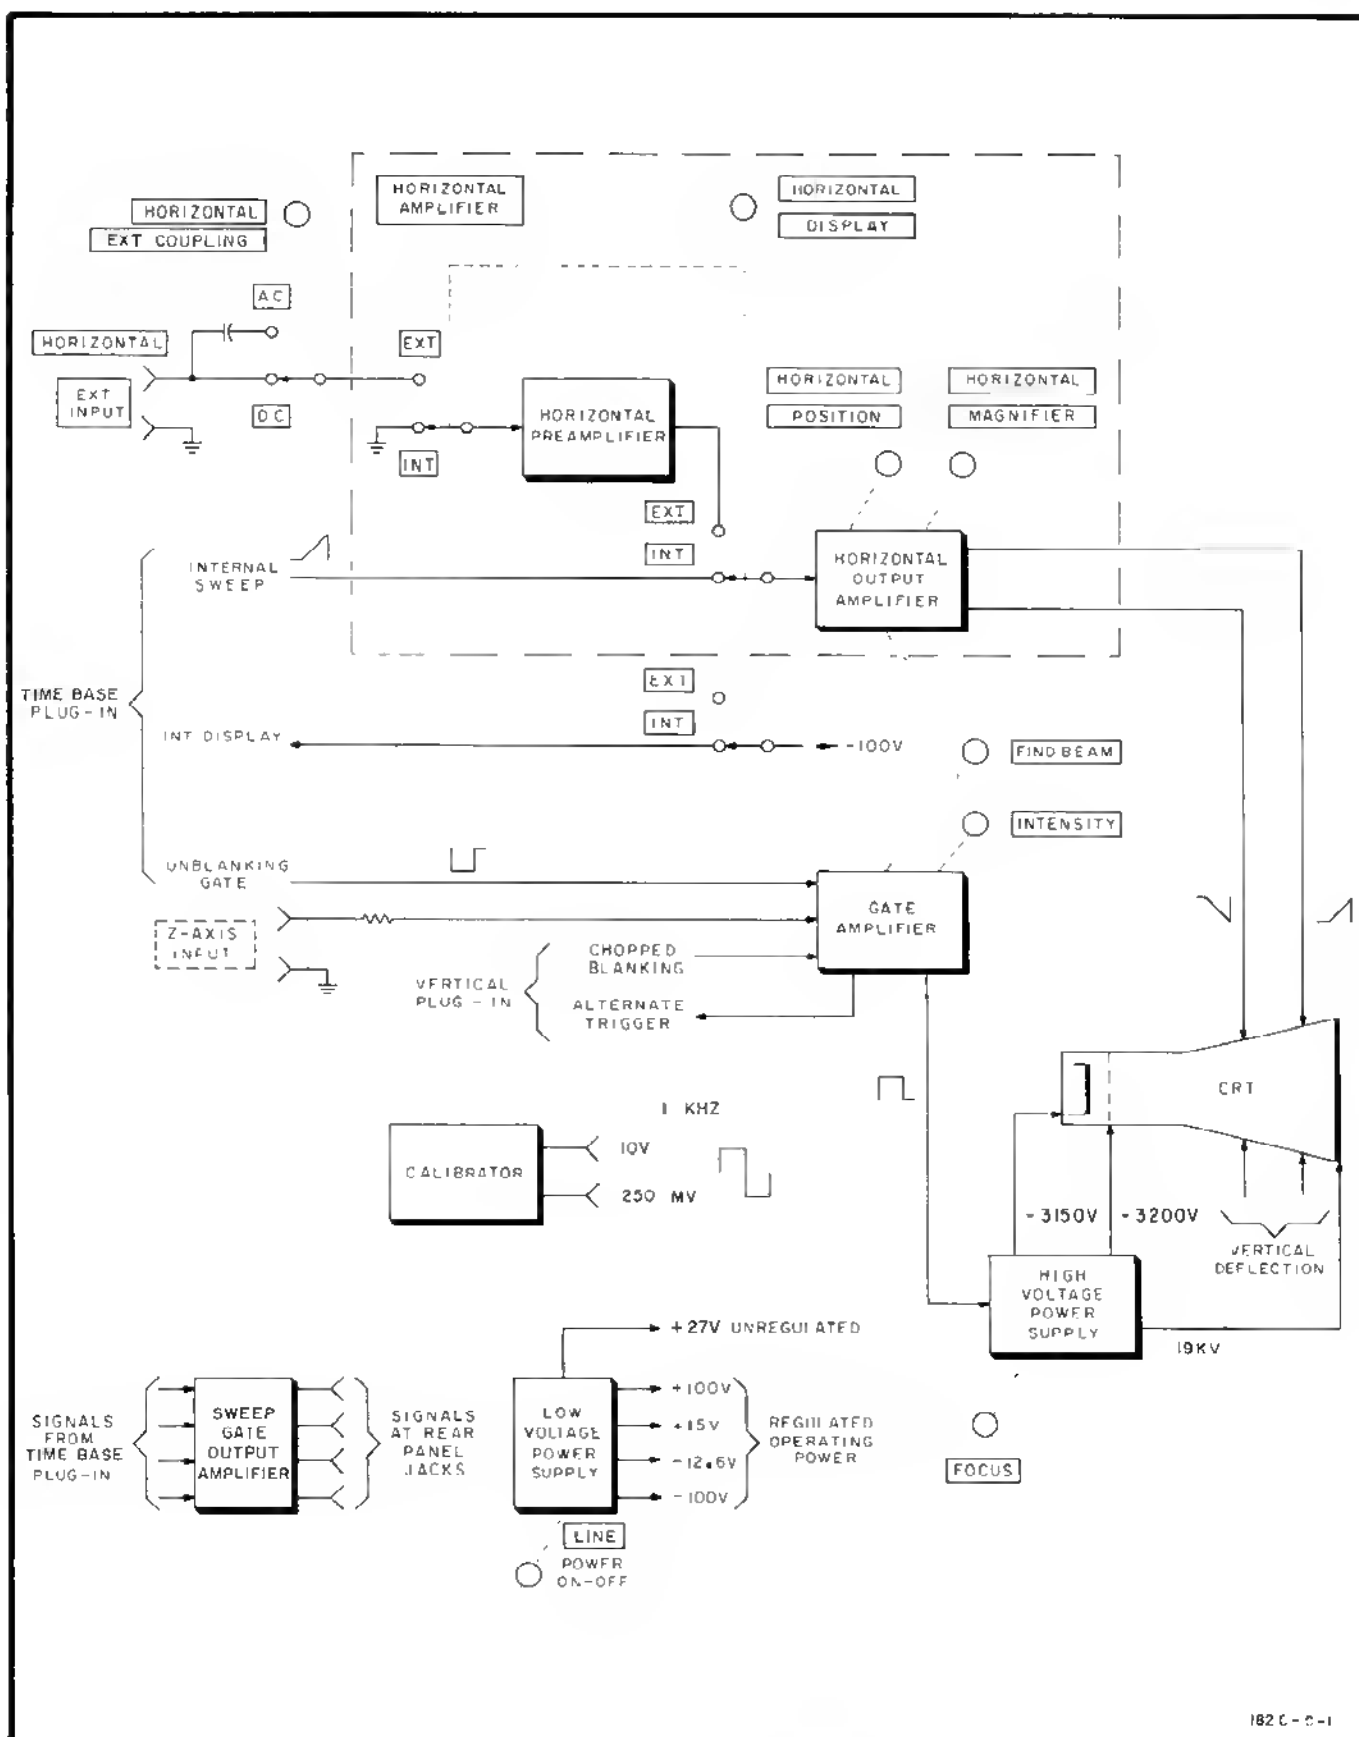

Figure 4-1. Overall Block Diagram
4.2. This section provides information about the circuits used in the Model 182C and how they operate. Refer to the overall block diagram (Figure 4-1) and the schematics in Section VIII while reading the text.